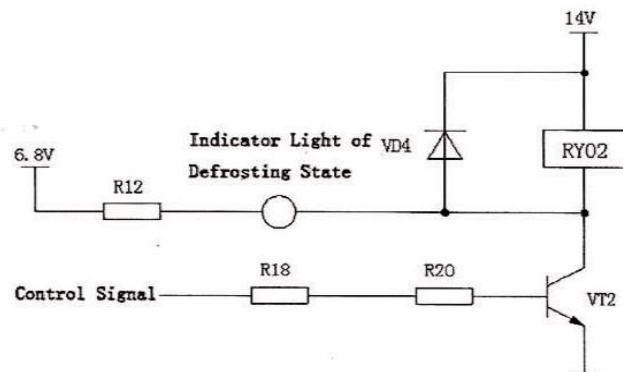

Fig. 6-1: Start-up Circuit
- 3. Startup circuit:** - the circuit principle as indicated in fig 6-1. As relay and LED require great current to start they cannot be directly driven by control signal. Therefore, control signal is used to control the saturation and close (equivalently the make and break of switch) and operate to start the action of relay and LED. Control signal is the no. 11 pin of NAND gate 4014 in the schematic diagram.